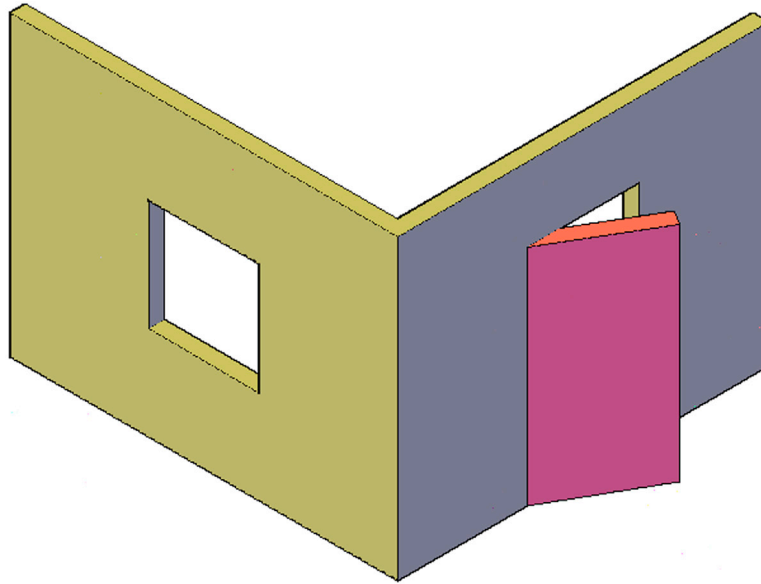

FIGURE 23.17 3D modeling exercise, Step 7.
Step 7. Finally, let us put the copy of the door back where it belongs and give it a -30° rotation (negative again). The final result is in Fig. 23.17.